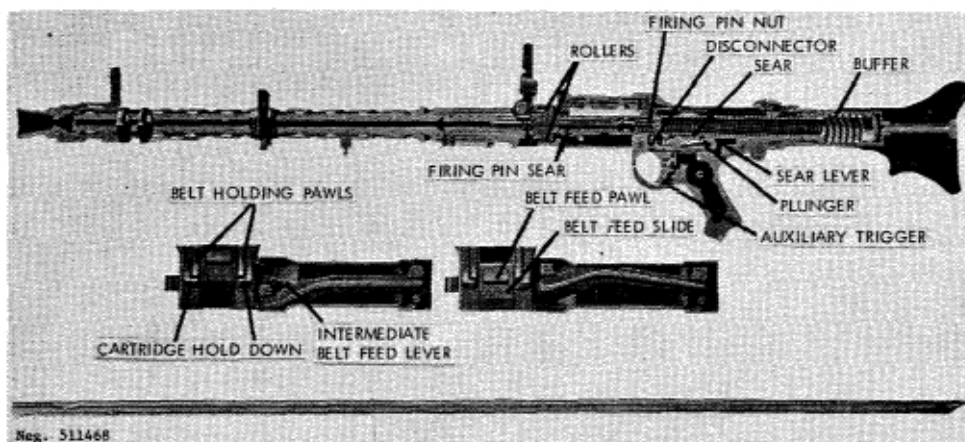

Figure 169. MG34 section.
e. The MG34 normally has a selective fire trigger mechanism. A simple spring-loaded sear (fig 169) pinned to bottom of the receiver is actuated by a spring-loaded sear lever (fig 169) located directly to the rear of the sear. The sear lever, in turn, is activated by a plunger that extends from the rear of the trigger. As the trigger is pressed, the rear of the disconnecter (pivoted to the top front of the trigger) contacts the plunger; this causes the sear lever to pivot to force the sear down and release the bolt.
f. If the lower, or automatic fire, section of the trigger is pressed, the small auxiliary trigger (fig 169) pivots to clear a stop shoulder on the frame. The plunger actuates the sear lever, and as the bolt runs forward, it forces the disconnecter (fig 169) down and the trigger moves slightly rearward. The square shoulder of the plunger then seats against the rear of the trigger and holds the sear lever in its pivoted position, and because the sear lever holds the sear depressed, the gun continues to fire until the trigger is released. When this occurs, the trigger with the disconnecter moves forward and the plunger, because it no longer rests against the disconnecter, moves forward under the influence of the sear-lever spring (as the sear lever rotates) and allows the sear to rise to intercept the bolt and halt the firing cycle.
turn, operates an intermediate feed lever; this lever (fig 169) fits into the belt feed slide and moves the slide back and forth. A spring-loaded feed pawl mounted on the slide rides on the ammunition belt and feeds it into the gun. A pair of nonreciprocating holding pawls in the cover, on each side of the feed slide, prevents the belt from moving outward with the feed slide. A pair of spring-loaded cartridge holdddowns forces the cartridge into the slot of the feed tray so the cartridge can be picked up by the forward moving bolt.